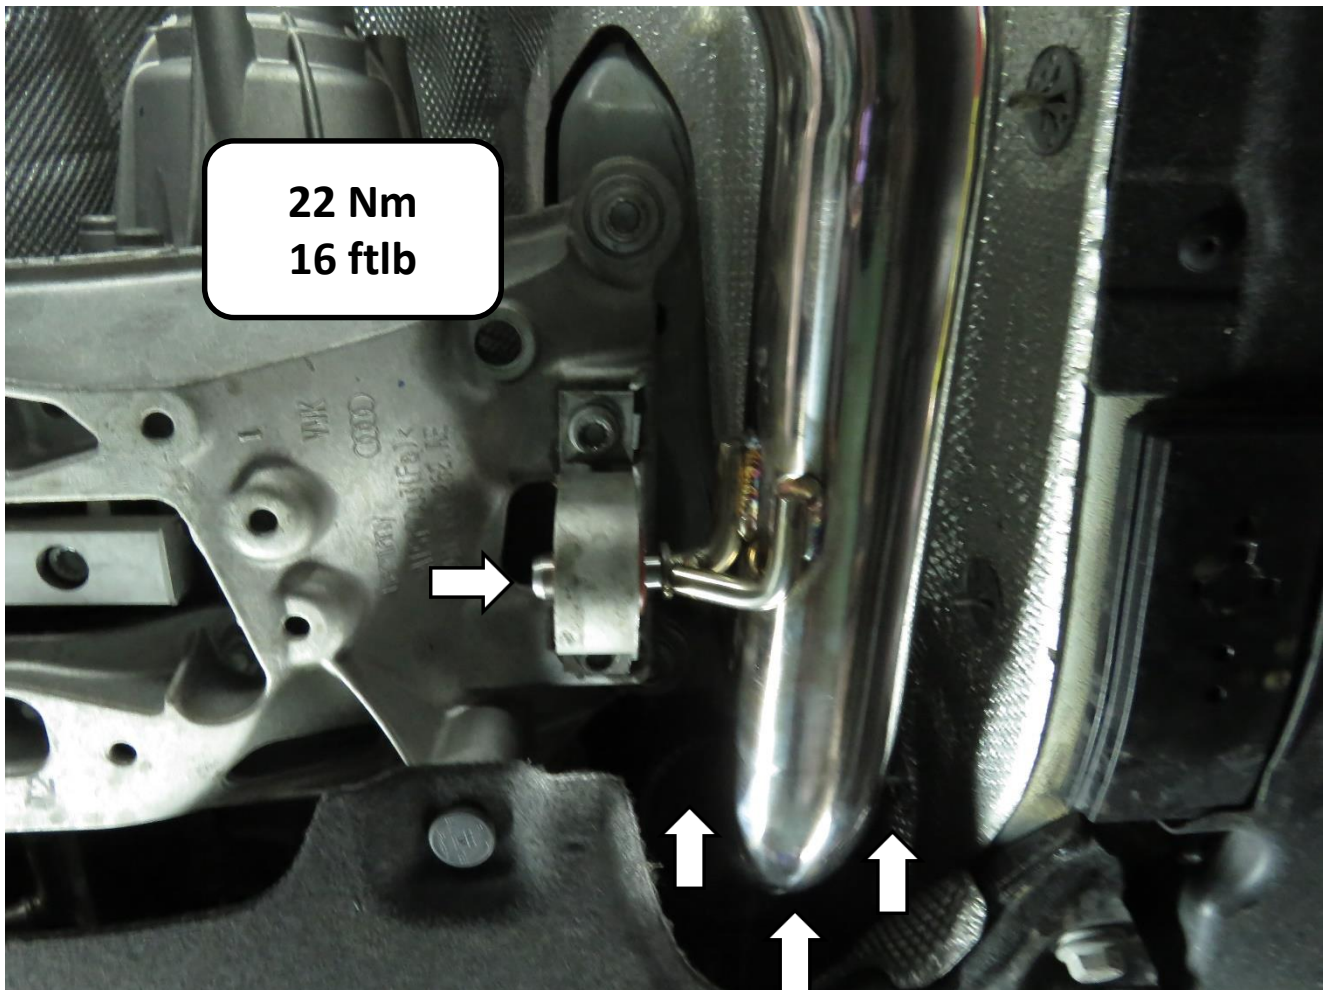

Figure 7
2. Install the front pipe then Install the bushes (Figure7) .